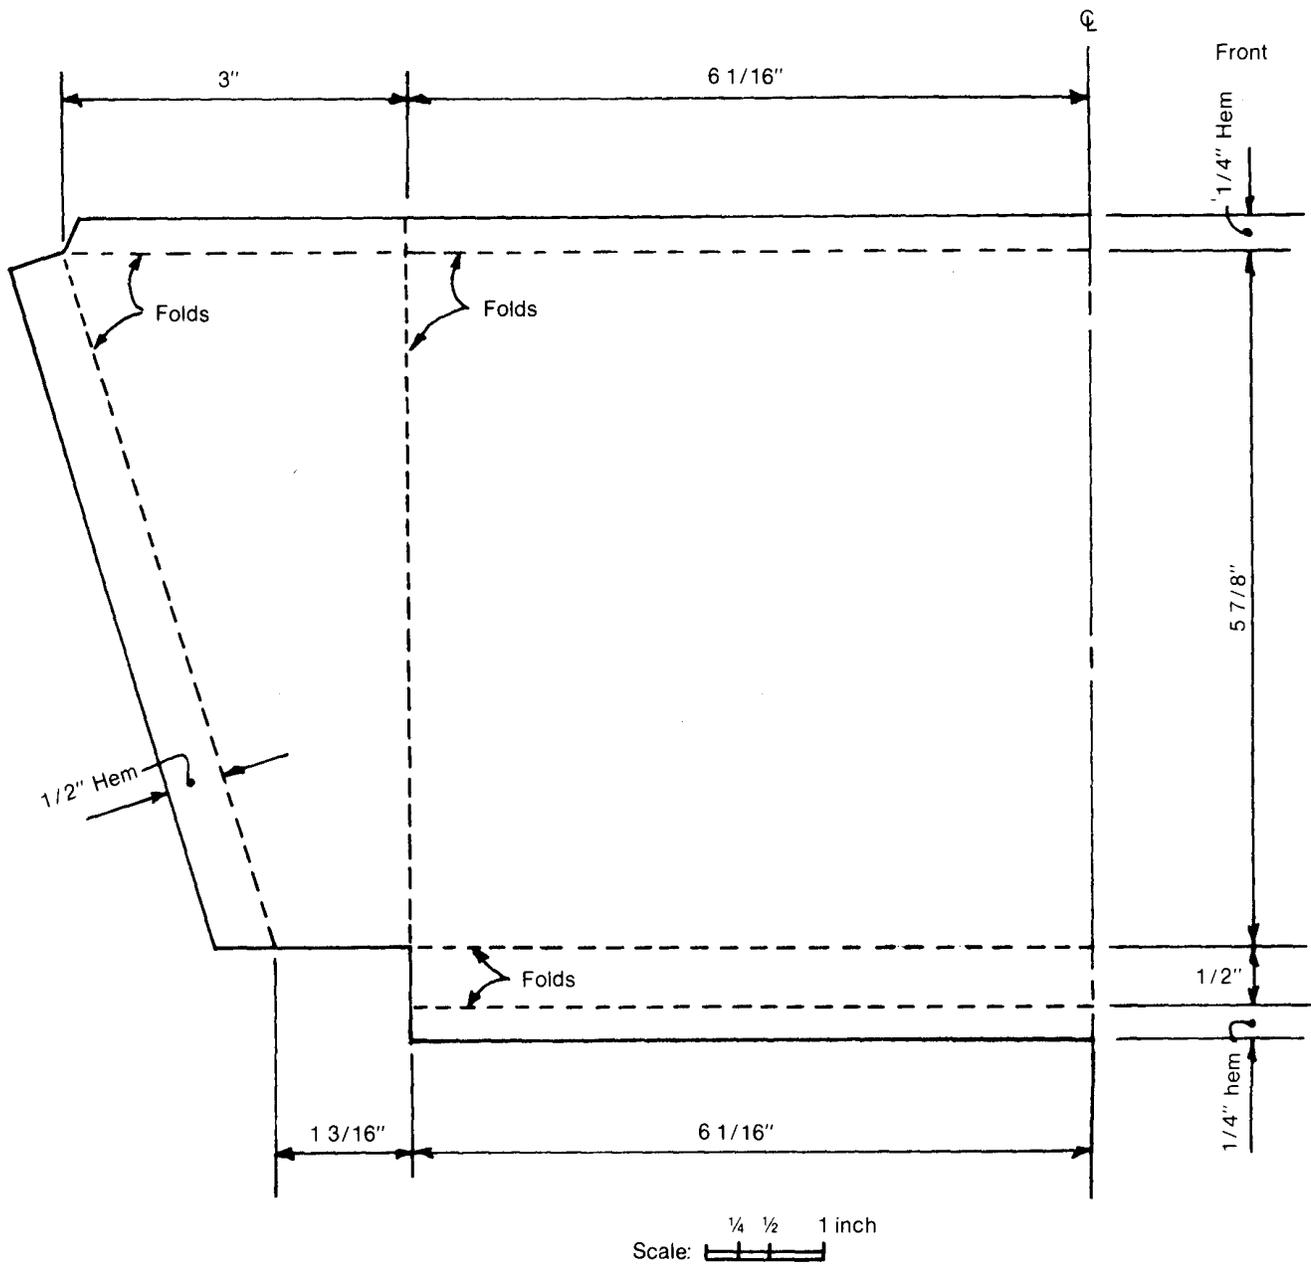

Figure 3—Half template for cutting the 16-gauge sheet metal for the front and sides of the gritter.
- ?? one 71/2- by 181/8-inch piece (front and sides of the bin; fig. 3)
sheet metal  $\frac{1}{4}$  inch along its long ( $18\frac{1}{8}$ -inch) side. Trim off the excess metal, hem and bend as shown in figure 3.